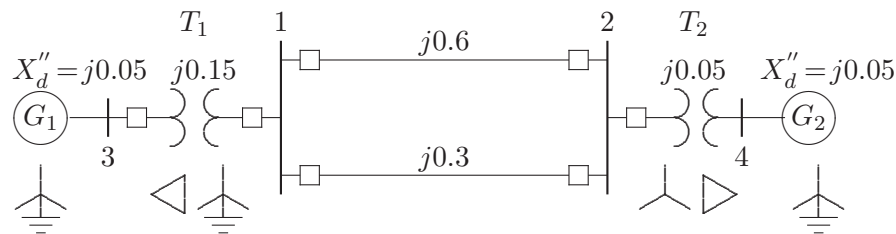

FIGURE 88
10.19. The positive-sequence reactances for the power system shown in Figure 88 are in per unit on a common MVA base. Resistances are neglected and the negative-sequence impedances are assumed to be the same as the positive-sequence impedances. A bolted line-to-line fault occurs between phases *b* and *c* at bus 2. Before the fault occurrence, all bus voltages are 1.0 per unit. Obtain the positive-sequence bus impedance matrix. Find the fault current, the three-phase bus voltages during fault, and the line currents in each phase. Check your results using the **zbuild** and **llfault** programs.